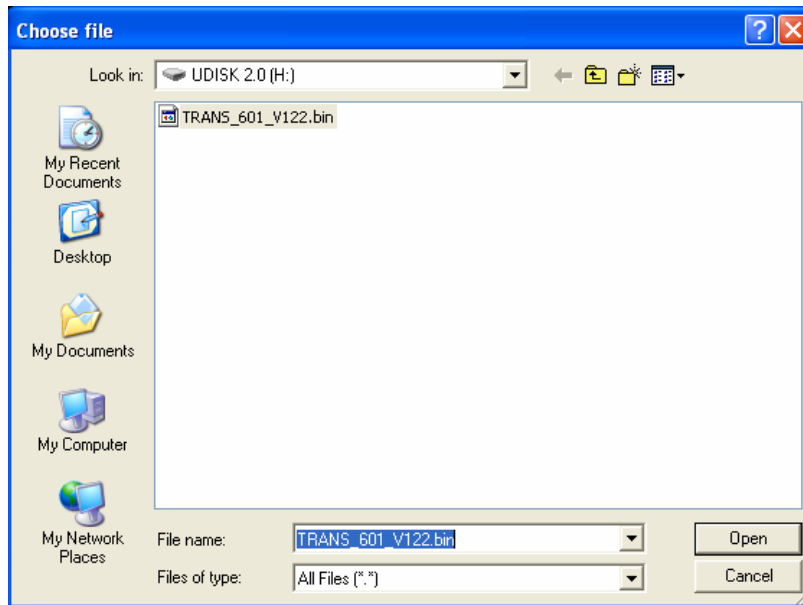

Figure 27: Choose File Dialog Box
1.	Click the BROWSE button to locate the firmware, as shown in Figure 27.